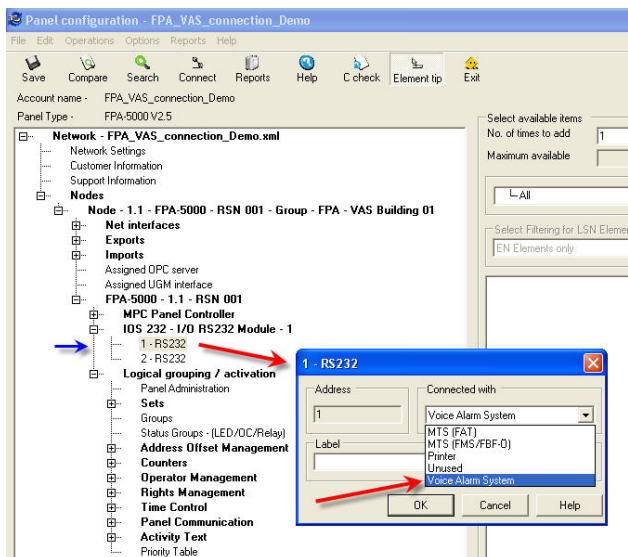

Figure 19 – FPA - Voice Alarm connection setup
8) Select the IOS 232 module and open the tree. Select “RS232”, as shown in figure 19, and click with the right mouse button to select the Plena Voice Alarm which as connected RS-232 device.